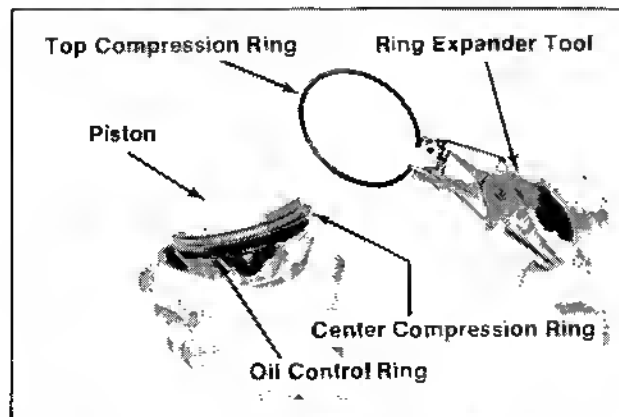

Figure 9-27. Removing Piston Rings.
1. Remove the top and center compression rings using a ring expander tool. Refer to Figure 9-27.